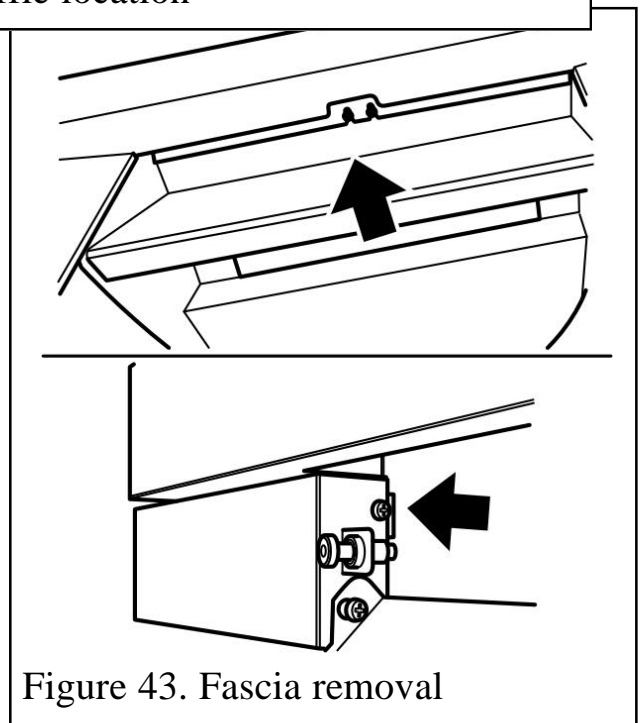

Figure 43. Fascia removal
2. Remove the two screws from the base of the fascia (See figure 43).